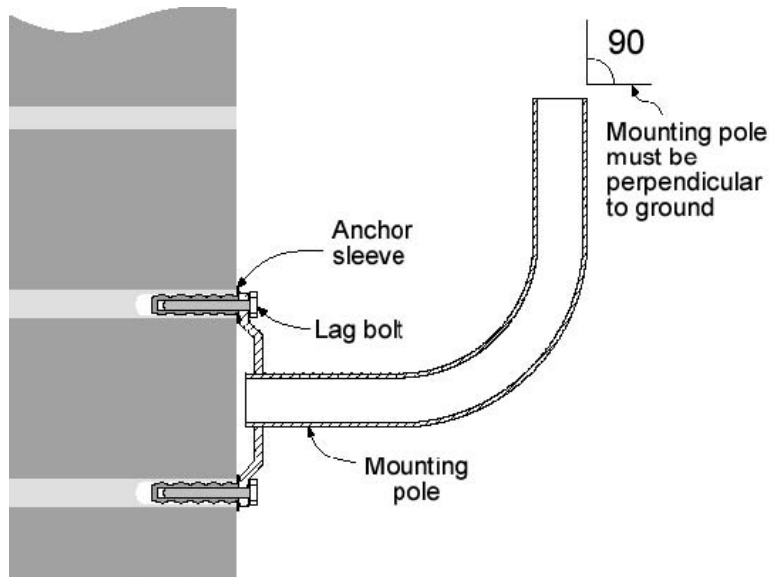

Figure 4-3: Mounting Pole Installation
- 1) Place the mounting plate against the wall (Figure 4-3:). Use a level or plumb line to set the mounting pole perpendicular to the ground.